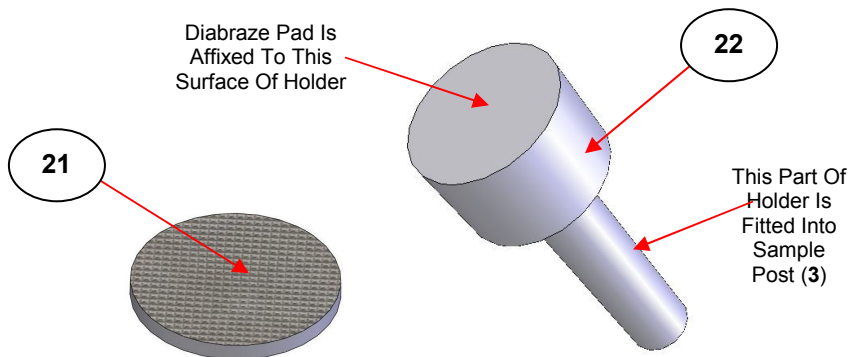

Fig 16. Diabrazed Pad and Diabrazed Pad Mount Holder
The diabrazed pad (21) is 12mm in diameter and consists of small diamond particles embedded in an adhesive backed cloth material as the actual sampling surface. The diabrazed pad is used on its own mount holder (22) to be fitted to the sample post (3) of the Selector baseplate (2). For fitting of a diabrazed pad (21) to its holder (22), the protective paper is peeled away from the adhesive surface of the diabrazed pad (21) and the diabrazed pad is then stuck carefully and centrally to the top surface of the mount pad holder (22) (See Fig 16.)